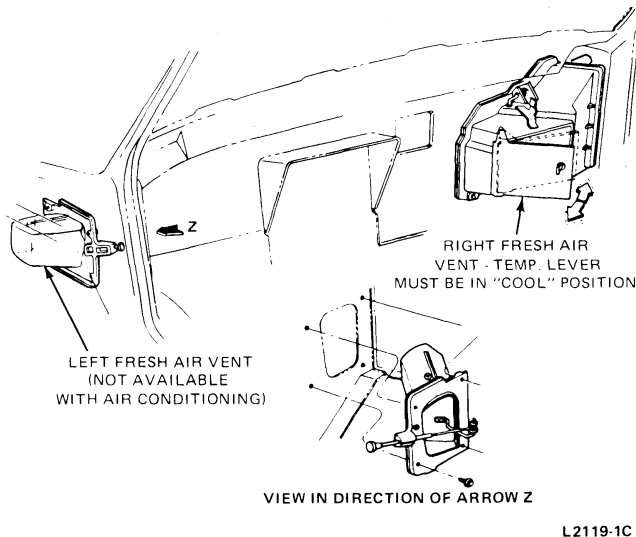

FIG. 1 E-100 Through E-350 Outside Fresh Air Vent Assembly
2. Remove the left cowl side trim panel (Fig. 1).
3. Remove the five attaching screws that hold the vent to the cowl side (Fig. 1).
1. Position vent assembly to cowl side (Fig. 1).